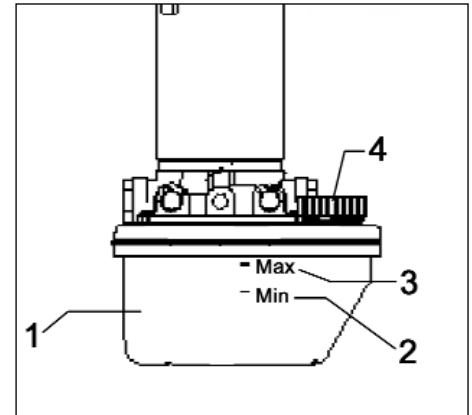

Fig.25
- Check hydraulic fluid level at tank (Fig. 25/1), the level must not fall below the minimum mark (Fig. 25/2). It should read between minimum (Fig. 25/2) and maximum mark (Fig. 25/3).